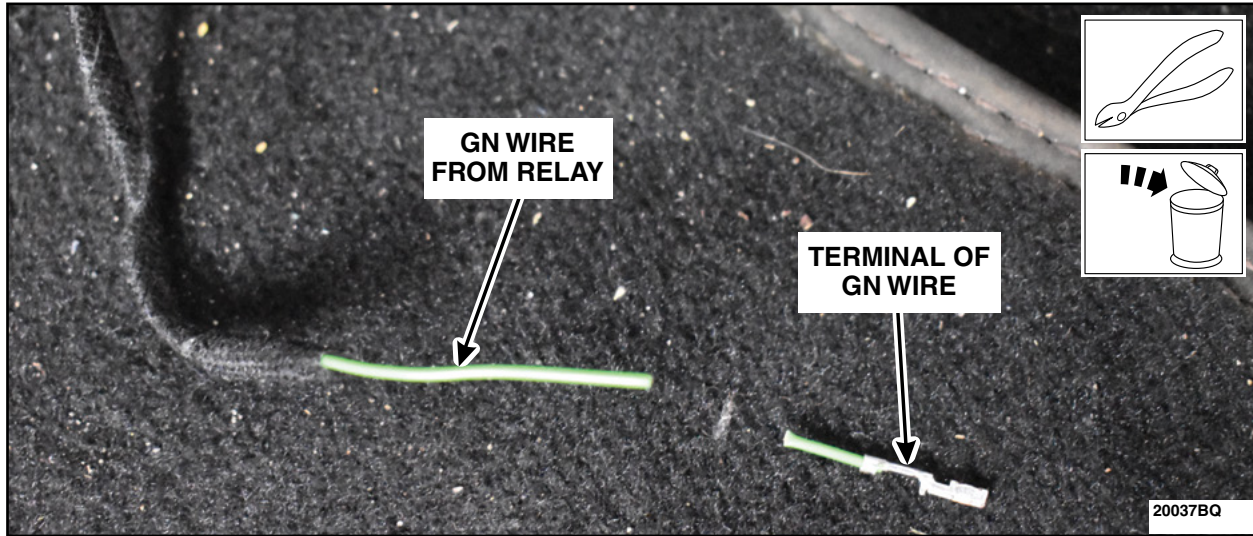

FIGURE 38
56. Cut off and discard the terminal of the Green (GN) wire from the relay. See Figure 38.